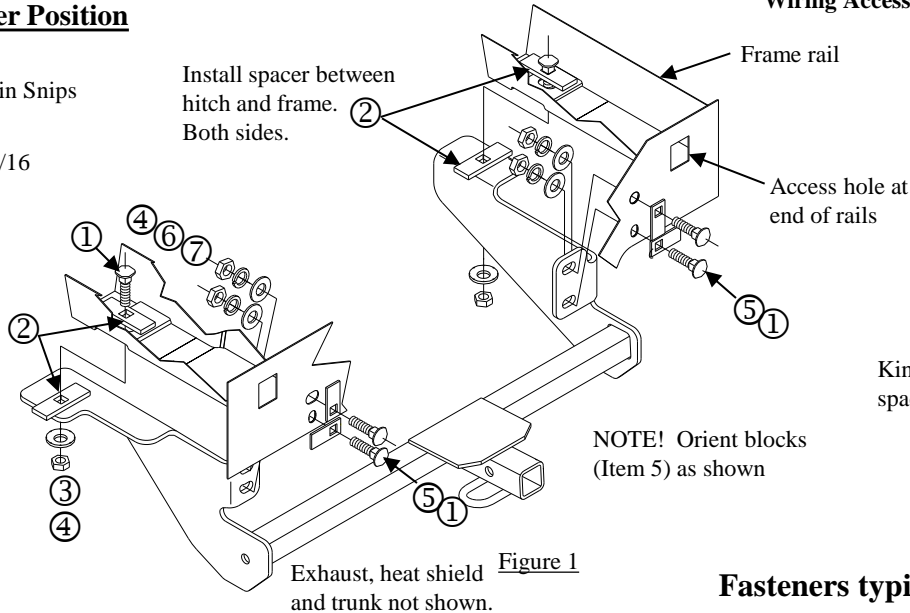

Figure 1
- Install remaining fasteners as shown above. Figure 1. **NOTE!** Orient blocks (Item 5) as shown. (Blocks must not overlap)